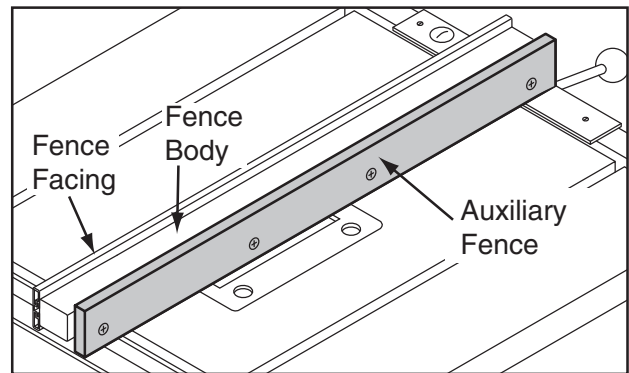

Figure 88. Auxiliary fence.
6. Thread the flat head screws through the auxiliary fence and into the hex nuts and flat washers inside the standard fence body, and tighten securely, as shown in **Figure 88**.